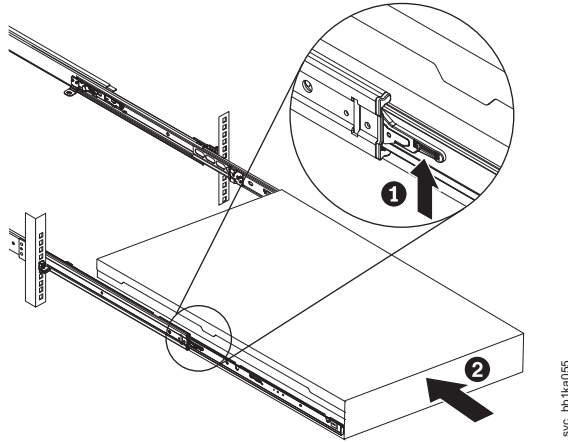

Figure 280. Raising the locking levers of the slide rails of the rack
11. Lift the locking levers (**1** in Figure 280 on page 339) on the slide rails and push the server **2** all the way into the rack until it clicks into place.